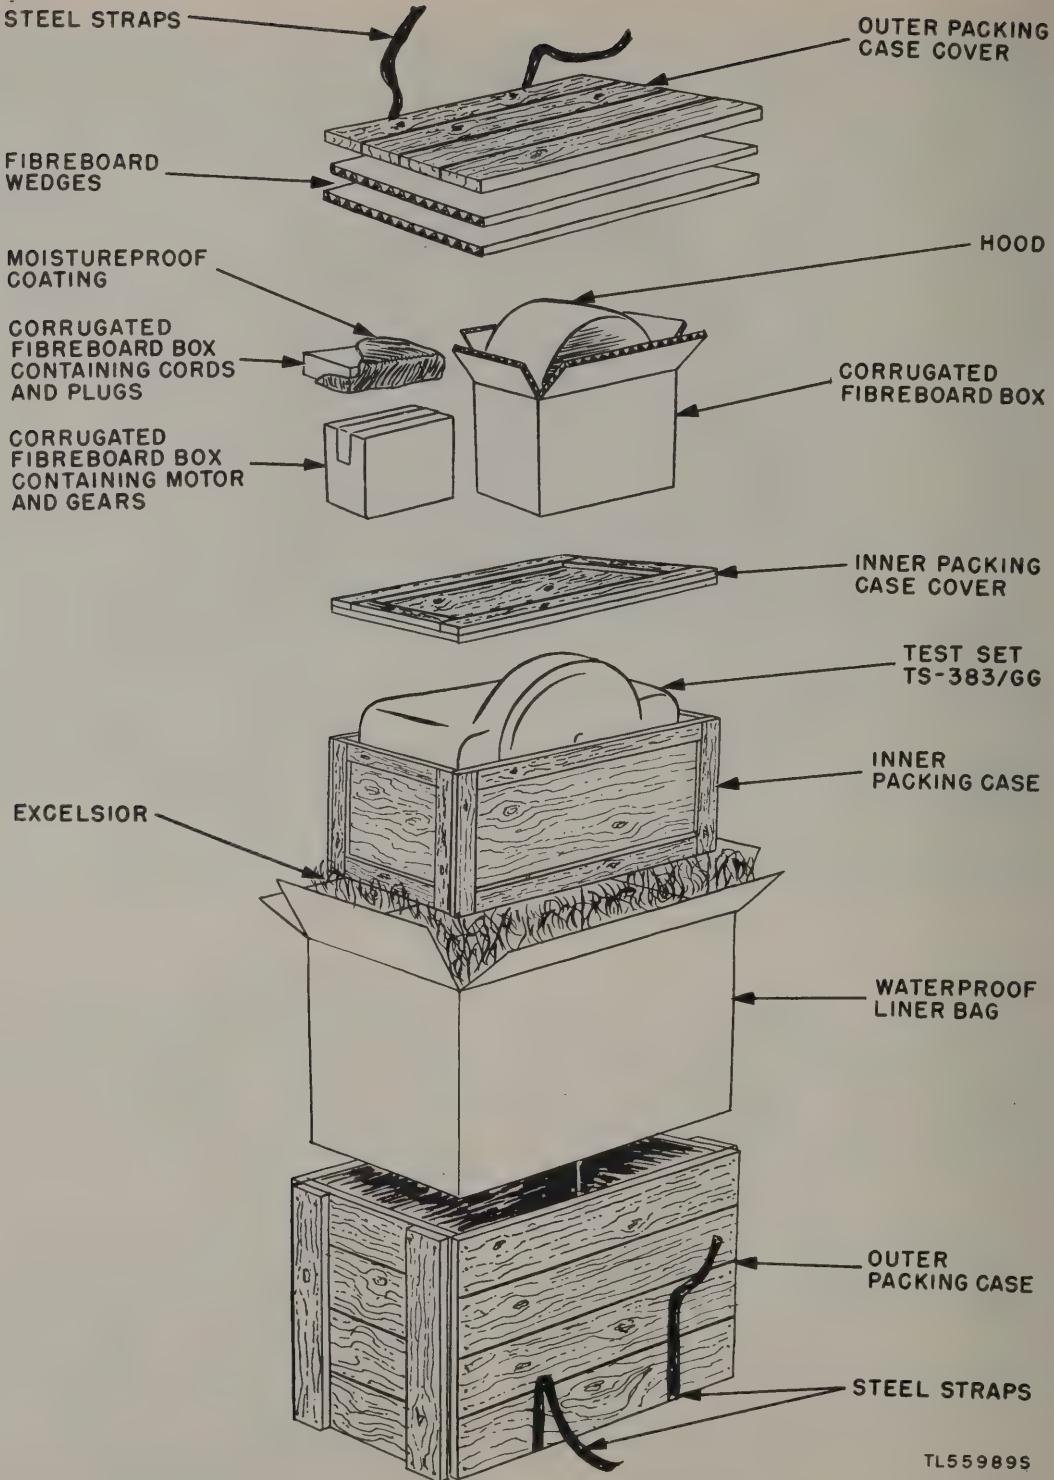

Figure 5. Distortion Test Set TS-383/GG packaged for overseas shipment.
b. For oversea shipment, Distortion Test Set TS-383/GG is packed in a cleated, wooden packing case reinforced with steel straps and fitted with a sealed waterproof liner bag. (See fig. 5.) Crated for oversea shipment, the test set weighs approximately 225 pounds and displaces 10½ to 12½ cubic feet.